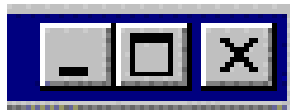

Figure 1
4. In the upper right corner of the new window you will see three icons. (See Figure 1) Using the mouse, if you place your cursor (the white arrow) over one of these boxes a word will appear telling you the function of each button. If you hold the cursor over the middle icon, it will say either "Restore" or "Maximize". If you see the word "**Maximize**", click on the button. This will make it easier to work with the logo. If the word "Restore" appears, do *not* click on the button as that will make the window smaller and not as easy to work with.